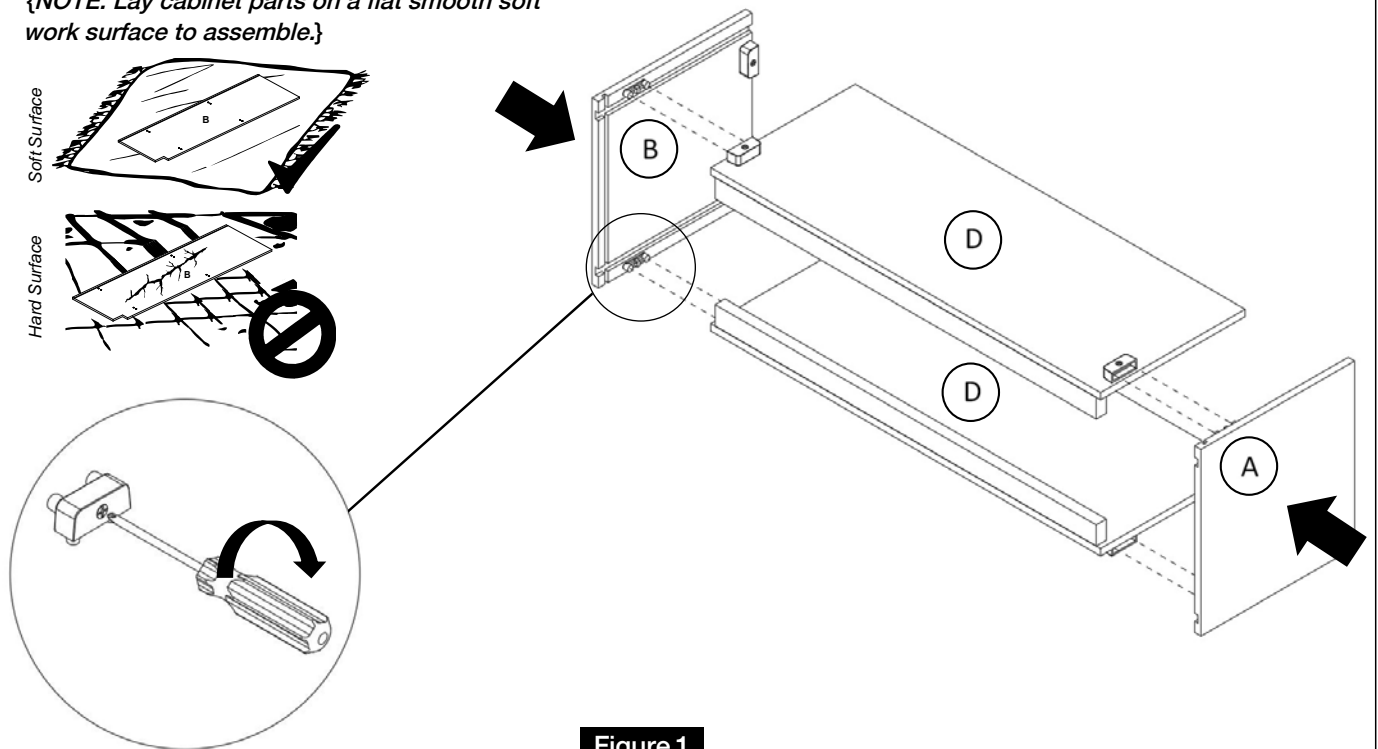

Figure 1
Assemble the Side Panels (A,B) onto the Panels (D) by connecting the male and female cam locks and using a screwdriver to turn the lock clockwise. (Figure 1)